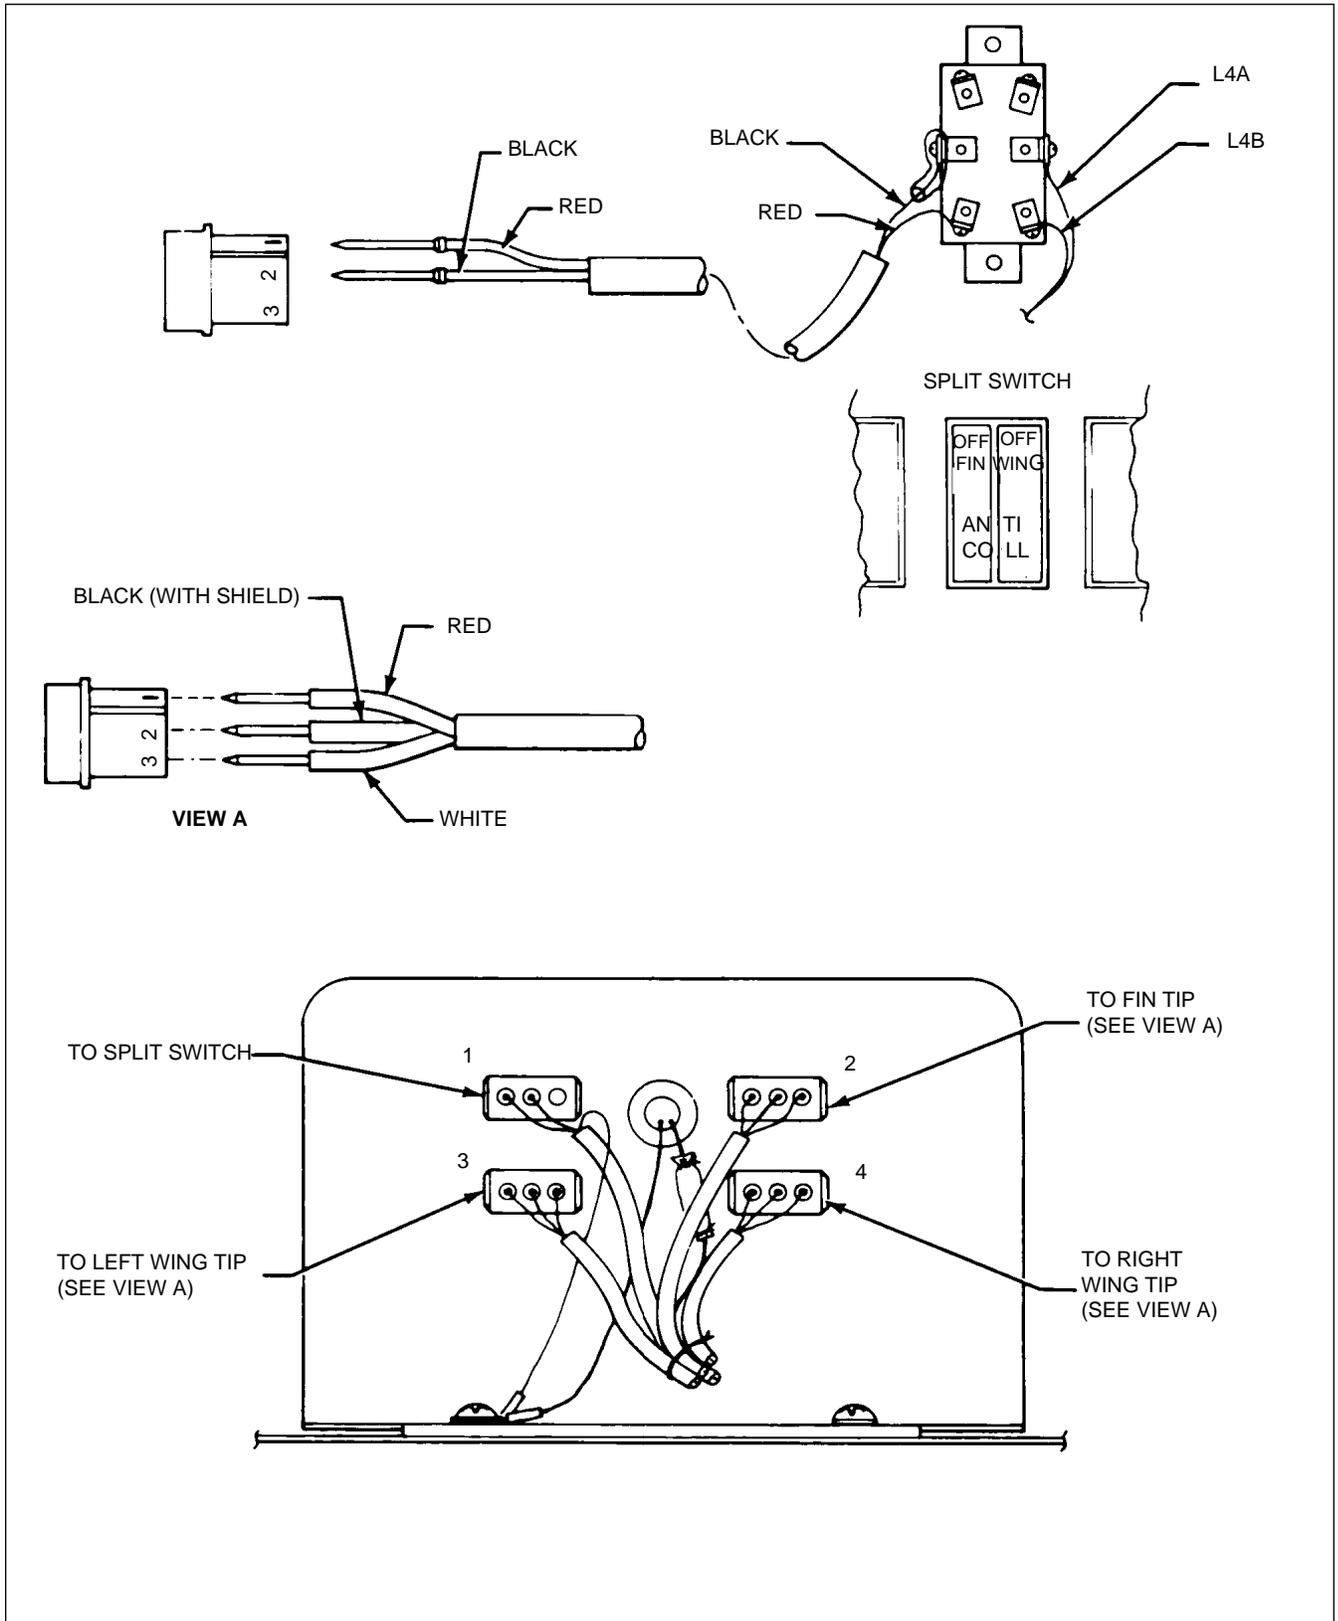

Figure 11-25 Strobe Light Connections (With Fin Strobe)
**11-72. INSTALLATION OF STROBE POWER SUPPLY.** (Refer to Figure 11-25.).